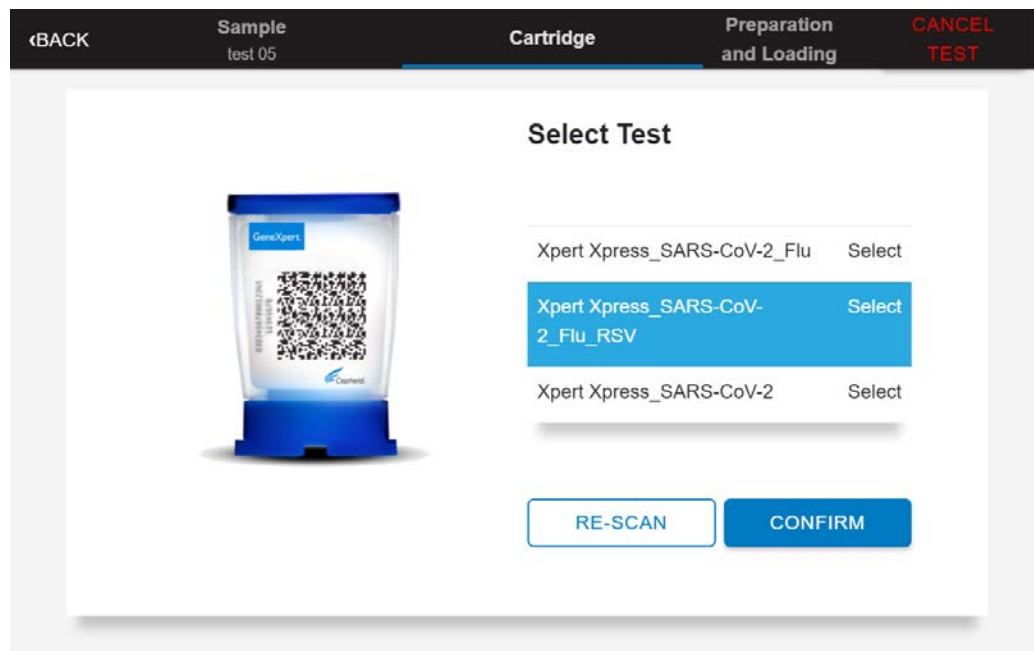

Figure 17. Select Test Screen
6. Select the test to run (see Figure 17):